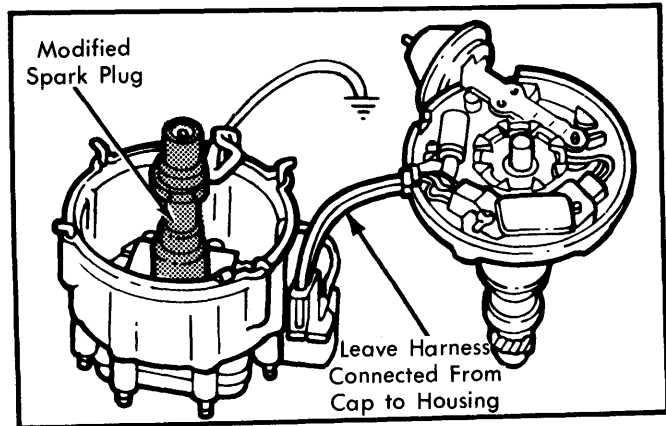

Fig. 5 Checking Distributor Components
6) If in step 3), the reading was more than 10 volts, attach modified spark plug again to coil secondary terminal (inside distributor cap). See Fig. 5. Leave harness connected between distributor and cap. Crank engine and check for sparks at modified plug. If sparks occur, inspect distributor cap for water, cracks or other damage. If OK, replace rotor.